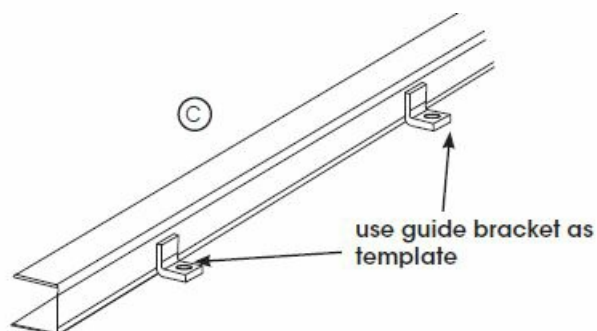

Fig: 2.5.3
- b) Using the guides brackets as a template (Fig 2.5.3) mark out and drill holes in the wall to match the spacing of the fixing bolt holes in the guides bracket.